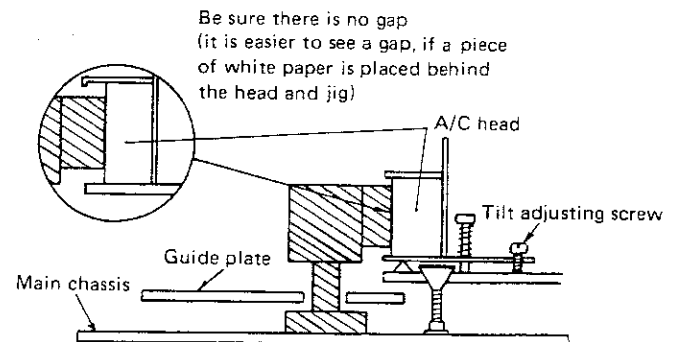

Figure 1-19.
2. Loosen the tilt adjusting screw ② by using a phillips screwdriver.
3. Remove the azimuth adjusting screw ⑤ (3P + 8S) with a phillips screwdriver.
4. Remove the A/C head screw ④ with a phillips screwdriver, paying attention to the spring ⑦ between the A/C head screw ④ and A/C head assembly ①.
6. The A/C head assembly ① is attached so that the A/C head arm and A/C head plate stand are roughly parallel to one another.
7. Set the A/C head tilt according to Fig. 1-19.
2. Set the angle of tilt for the A/C head as shown in Fig. 1-19.